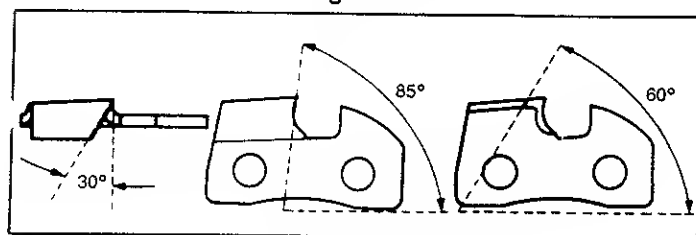

Figure 33
- f.) File P100S and P101S chain to meet specifications shown in Figure 33.
Maintain the proper hook angle according to the manufacturer's specification for the chain you are using. Improper hook angle will increase the chance of kickback which can result in serious injury. Figure 33 & 35.